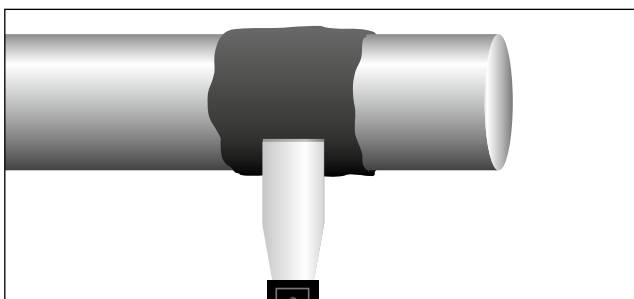

Figure 17. Fill repair area with epoxy.
3. APPLY EPOXY: Apply a very thin layer of the recommended repair epoxy and force into the bottom of the threads. Turn the shaft at a very low speed and continue to apply more material by using a tool, such as a putty knife, that can be bent. (See Figure 17)